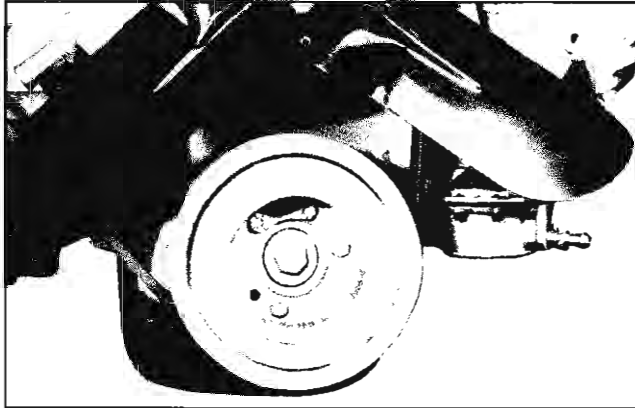

Fig. 6-39 Harmonic Balancer
3. Remove harmonic balancer attaching bolt and retainer washer (Fig. 6-39).